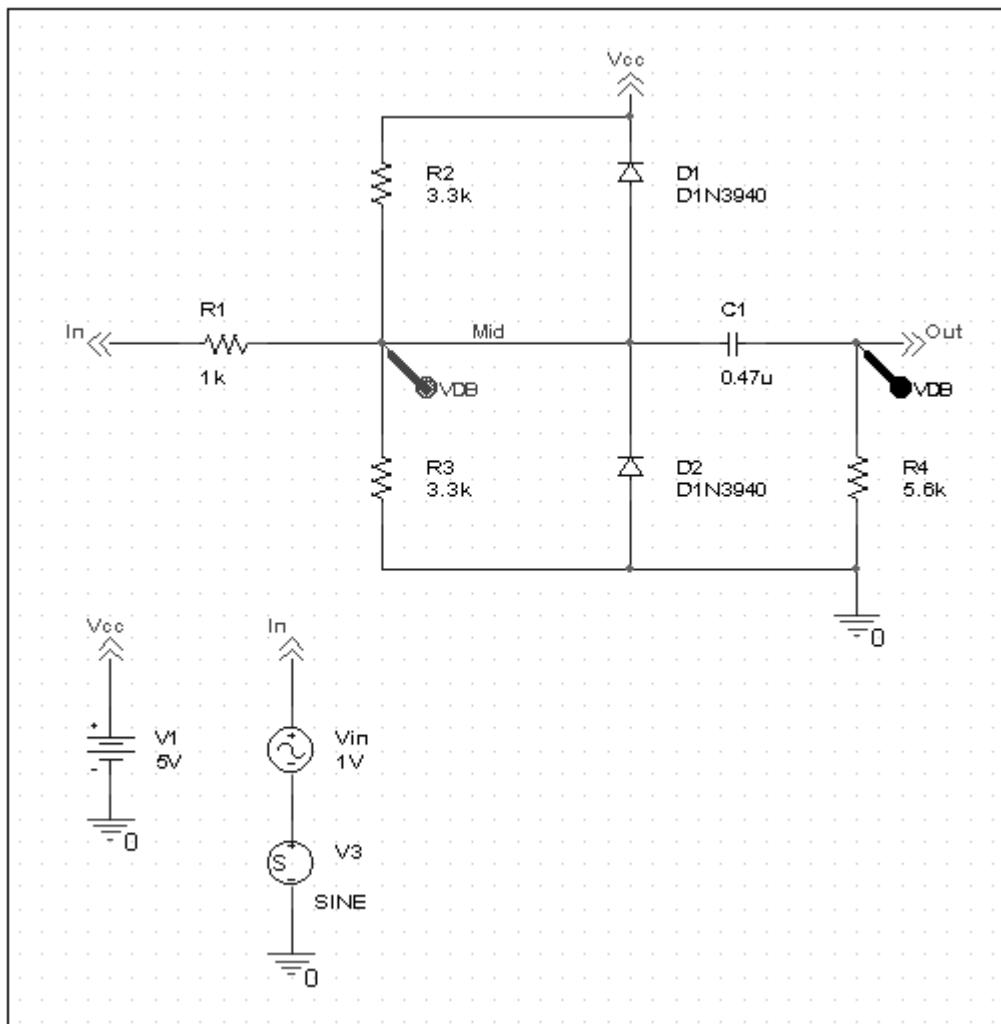
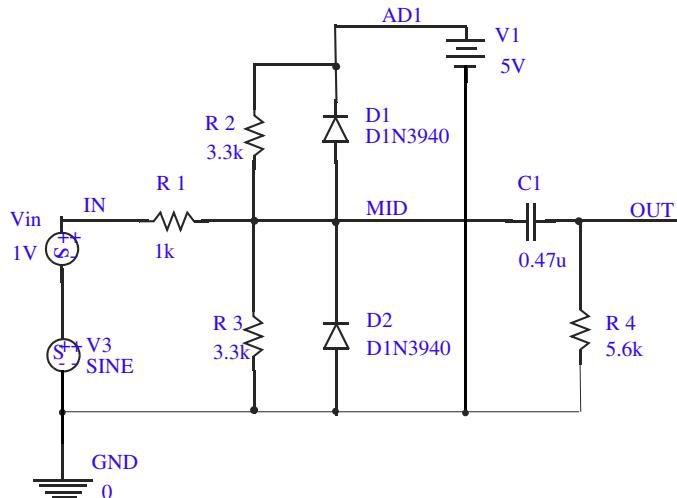

Figure 2-20 Clipper circuit with AC stimulus in capture.
Figure 2-21 Clipper design with AC stimulus in Design Entry
In this example, you will set up the clipper circuit for AC analysis by adding an AC voltage source for a stimulus signal (see Figure 2-20 and Figure 2-21) and by setting up AC sweep parameters.
5. Place the AC voltage source on the schematic page, as shown in Figure 2-20.
6. In the *Cells* list box, select `VAC` and place the part on the schematic page as shown in Figure 2-21.